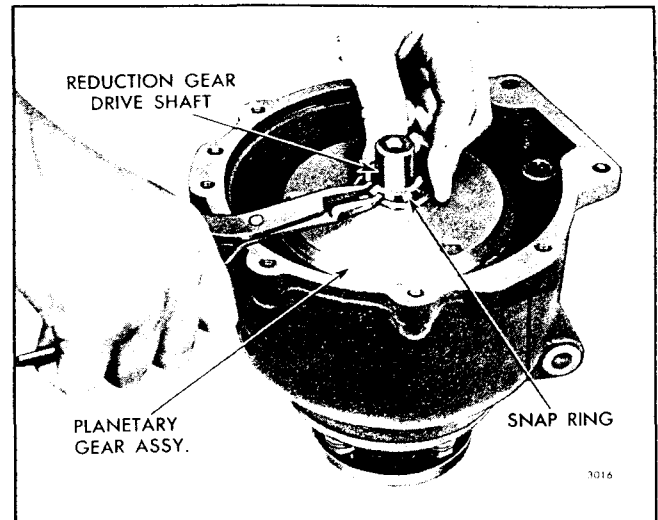

Fig. 35 - Removing or Installing Planetary Gear Snap Ring from/on Reduction Gear Drive Shaft (1.5:1 Ratio)
2. Remove the planetary gear snap ring from the groove in the reduction gear drive shaft with a pair of snap ring pliers J 5586 as shown in Fig. 35.